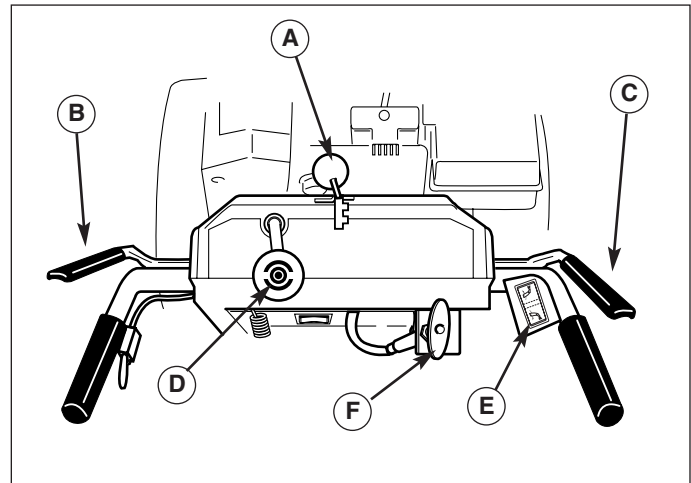

Figure 2. Controls (from operator's position)
7. Check the drive control (B, Figure 2), and auger control (C) for proper operation. If adjustment is required, see the service section for procedures.
8. Check the chute direction control (D, Figure 2) for proper operation. The discharge chute should rotate freely in both directions. See the service section for adjustment procedures and troubleshooting.
9. Check the chute deflector (E, Figure 2) for proper operation. The deflector should pivot freely up and down when the chute deflector knob is loosened.
11. Check the speed selector (A, Figure 2) for smooth operation. The control must move freely into each speed position gate and remain in position when released. If the speed selector does not move freely into all forward and reverse speed positions, contact your local authorized dealer for assistance.
3. Fully press and hold the auger engage control (C, Figure 2) on the right-hand grip to begin auger rotation. Releasing the auger engage control will disengage the auger —**unless the Free-Hand™ Control has been activated (See step 5 below).**
4. Fully press and hold the traction & Free-Hand™ Control lever (B, Figure 2) on the left-hand grip to engage the traction drive and begin moving the snowthrower. To disengage the traction drive, completely release the lever.
6. Select forward or reverse speeds as needed using the Speed Selector (A, Figure 2). Release both control levers before changing drive speeds.
Use the speed selector (A, Figure 2) to control the drive speed of the snowthrower. There are five forward speeds and two reverse speeds.
To change speeds, release both control levers (B, Figure 2), then move the speed selector to the desired setting. Fully depress the control levers to resume.